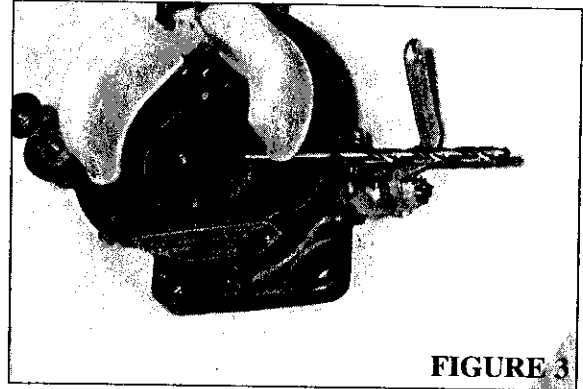

FIGURE 3
- 3.6) To adjust the float properly it is suggested a 7/32" drill rod be used as shown in Figure 3 to measure the adjusted clearance between the gasket and float, measured near the tip of each pontoon.